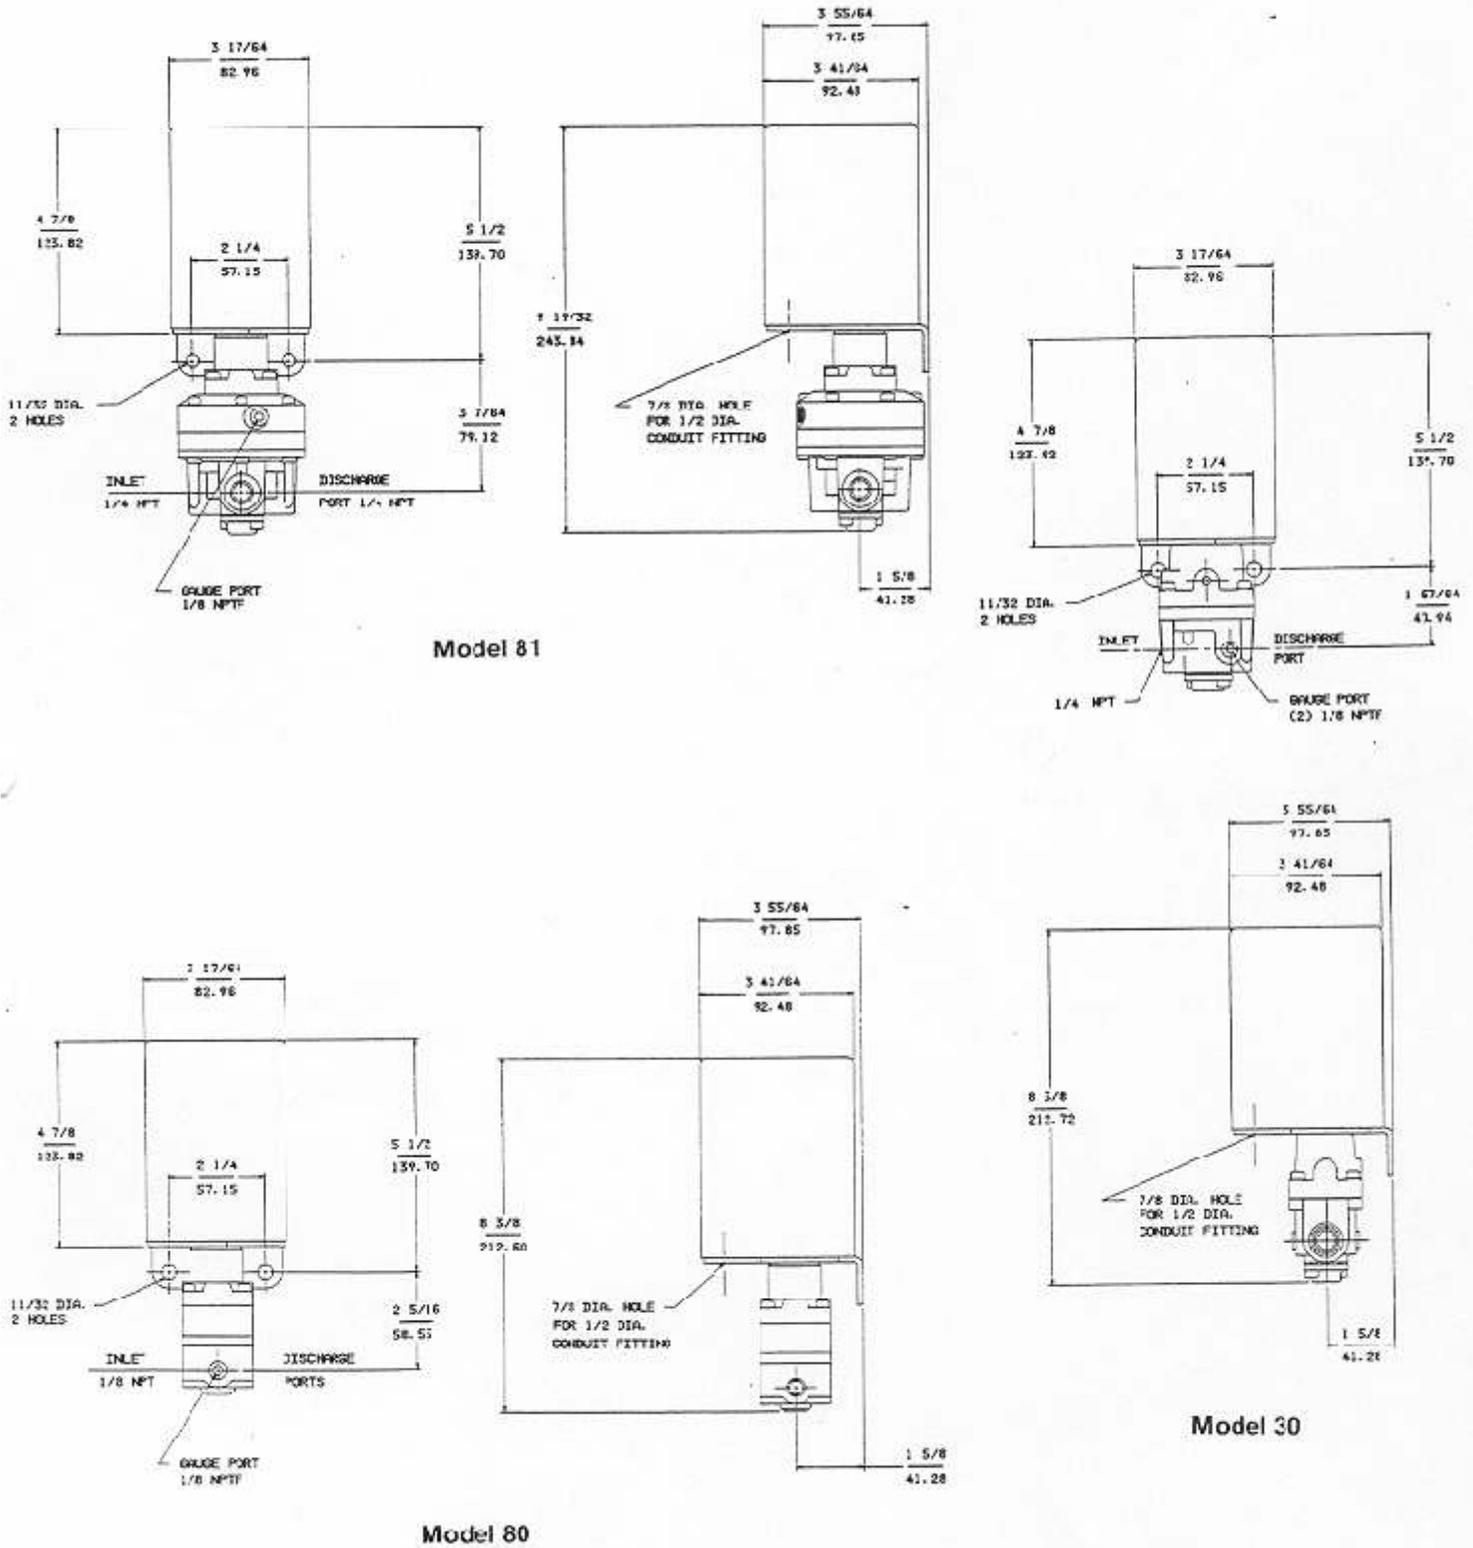

Figure 2
### Pneumatic Connections (Figure 2)
8. Place the Thrust Washer (7A) on top of the flexible Coupling (9).
9. Install the top Plate (5) on the Standoffs (7, 7B, 7C) and secure with three Screws (4A, 4B, 4C).
10. Guide the Motor (3) output shaft through the top Plate (5) and Thrust Washer (7A) into the Flexible Coupling (9).
11. Using Nut and Screw (3A and 3B), install Motor (3) on top Plate (5).
**NOTE:** Make sure that there is no gap between the Flexible Coupling (9) and the Thrust Washer (7A) or between the Thrust Washer (7A) and the top Plate (5). Make sure that the flat on the Motor (3) shaft is lined up with the Set Screw (9A) on the Flexible Coupling (9). Tighten the Set Screw (9A) on the flat of the Motor (3) shaft.
12. Place the limit switch hold down Spring (8) between the Limit Switch Assembly (13) mounting blocks and the top Plate (5).
13. Insert the adjusting Screws (4) through the top Plate (5) and the hold down Spring (8) and thread into the limit switch Assembly (13) mounting blocks.
14. Connect the wires in the Harness Assembly (12A), according to the wiring diagram (Figure 2). Replace Snap Bushing (5A) in top Plate (5). Run Harness Assembly (12A) wires through the Bushing (5A) before connections are made.
16. Install the Cover (1) and cover retaining Screw (1A).